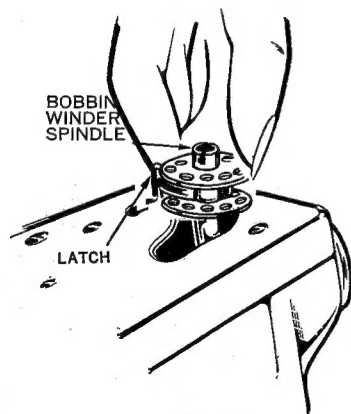

Fig. 1
- 2) Place a bobbin on the bobbin winder spindle, revolve the bobbin until the notch in the bobbin meets the spring on the spindle, and push the bobbin down. Then push the bobbin winding spindle so that the latch fits into the bobbin. (Fig. 1)